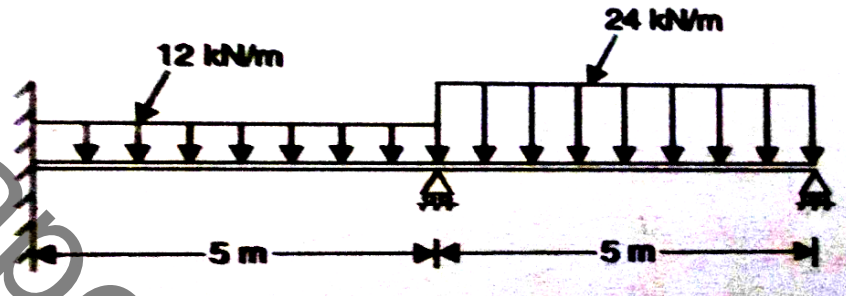

Figure 3
4. Analyse the beam shown in figure 3, by finite element method and determine the end reactions. Also determine the deflections at mid spans given $E = 2 \times 10^5 \text{ N/mm}^2$ and $I = 5 \times 10^6 \text{ mm}^4$ [15]